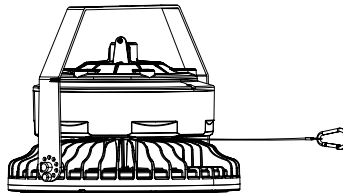

Fig. 15
3. Tighten the wire rope (Figure 15).